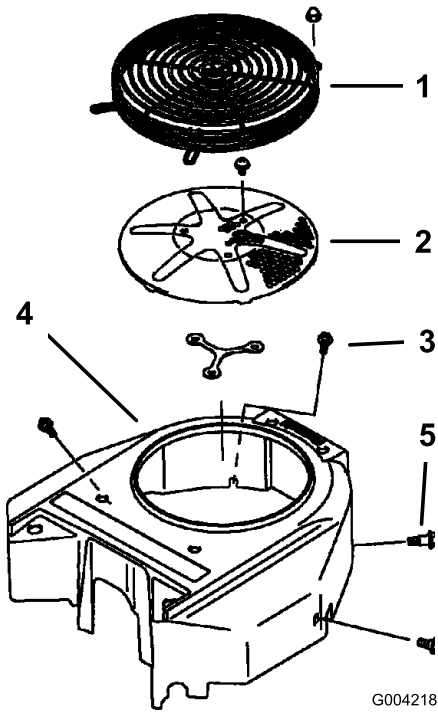

Figure 72
Before each use, remove any buildup of grass, dirt, or other debris from the engine screen. This will help ensure adequate cooling, correct the engine speed, and will reduce the possibility of overheating and mechanical damage to the engine (Figure 72).
3. Remove the air-intake screen, the recoil starter, and the fan housing (Figure 72).
5. Install the air-intake screen, the recoil starter, and the fan housing (Figure 72).